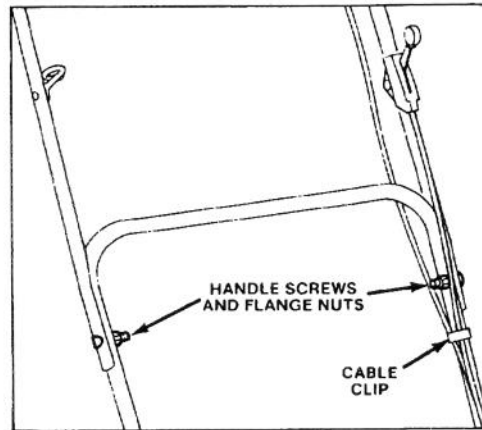

Figure 2
2. **UPPER HANDLE** (Fig. 2) — Secure upper and lower handles in place with handle screws and flange nuts. Control cables must be in front of lower handle cross member. Secure control cables in position with cable clip.